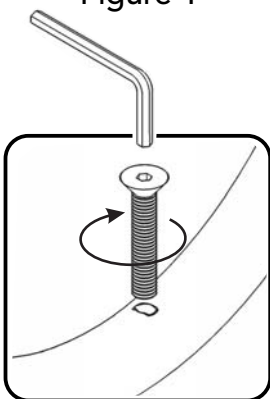

Figure 2
Attach Side Rails (D) to unit with Flat Head Bolts, tightening the bolts only half way. (See Figures 2 and 3)